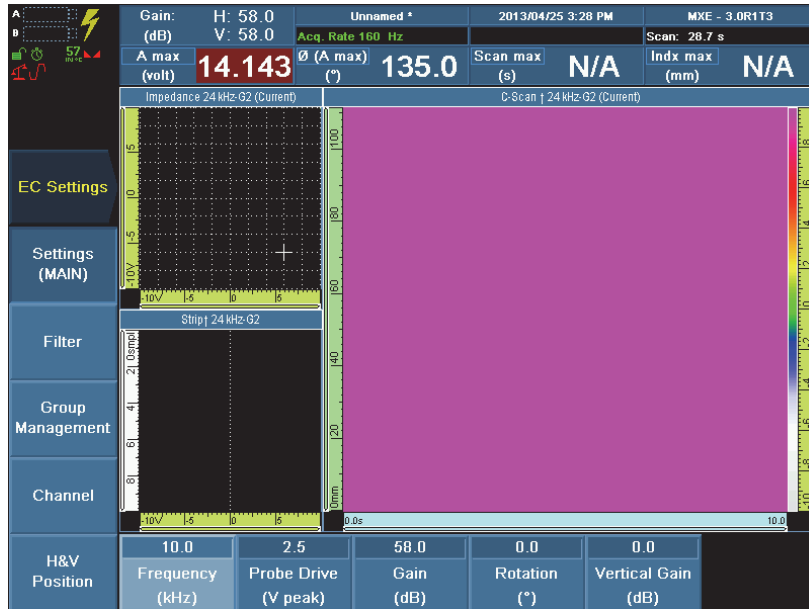

Figure 9-19 Configuring the Frequency and Gain parameters for mixing frequency 1
- c) Select **Frequency (kHz)**, set the value to optimize the detection of sub-surface corrosion, and then press the Accept key to confirm. In this example, the **Frequency (kHz)** value is set to 10.0 (see Figure 9-19 on page 151).